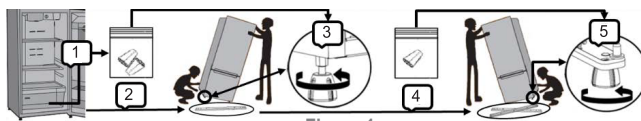

Figure 1
B. In some models, the refrigerator's vegetable storage drawer contains a plastic bag with two levelers. When unpacking, proceed as follows, see Figure 1:
1. With both hands, grasp the water storage tank and tilt it slightly upwards, then pull upwards until the tank completely disengages from the refrigerator door (see figure 1).